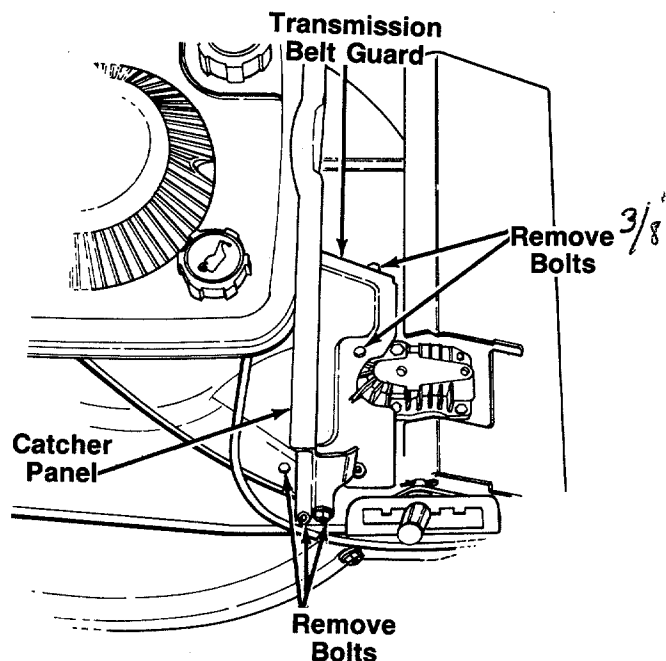

FIGURE 25.
3. Remove the transmission belt guard as follows. See figure 25.